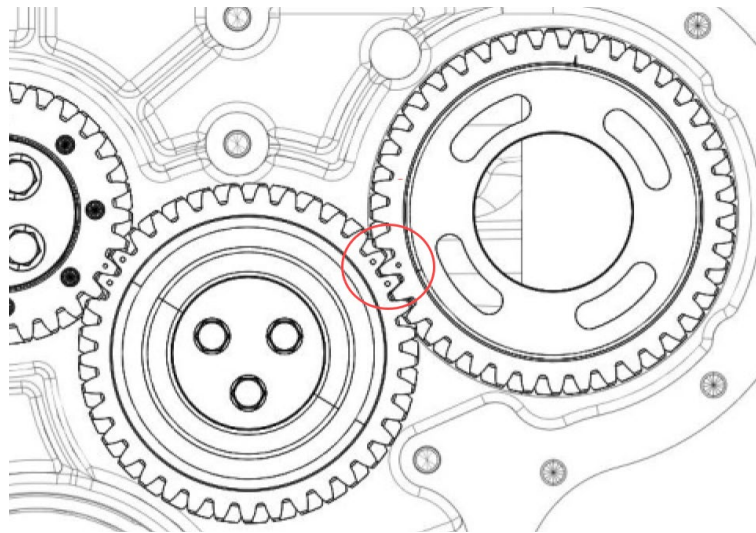

Figure 121.
8. Install the fuel injection drive gear with the pressure plate, ensure to align the single timing mark between the two-timing marks of the idler gear (Figure 121).